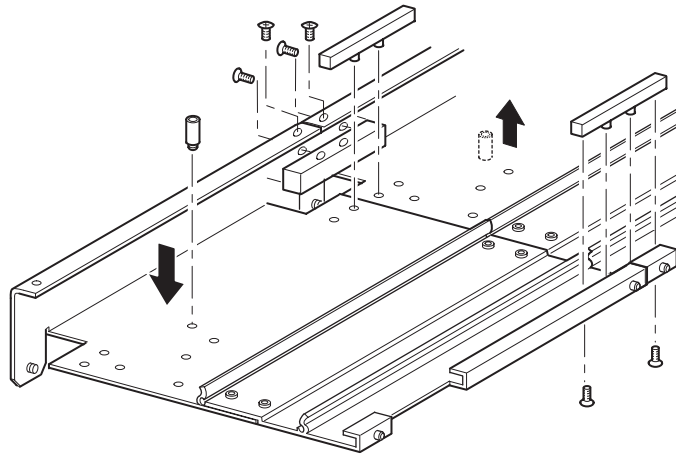

Figure 76. Tie bar installation
- b. Align the tie bar pins of the two narrow tie bars to the holes in the extension and primary chassis and attach with the four mounting screws (two each) as shown in Figure 76 on page 80.
9. Remove the bottom stop standoff from the primary chassis and attach it to the cartridge elevator extension in the corresponding mounting hole as shown in Figure 76.